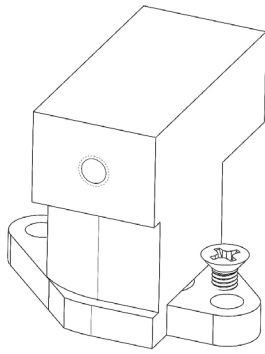

Figure 10 (A00282)
3. Locate all assembly keys and brackets. Verify that the correct quantity and type of keys and brackets have been supplied for each joint type in your unit. See Figures 10, 11, and 12 below for a magnified view of each joint type and the associated hardware. Vertical T-bars meeting the perimeter frame will require a wind load bracket at each end of each vertical T-bar (A00282 and A00286). Horizontal T-bars will utilize two different brackets, one for when the horizontal bar meets a vertical T-bar (A00530), and a second for when the horizontal T-bar meets the perimeter frame (A00280 and A00281). Part A00530 should be pre-installed into the horizontal T-bars prior to assembly using #10 x 3/4" screws.